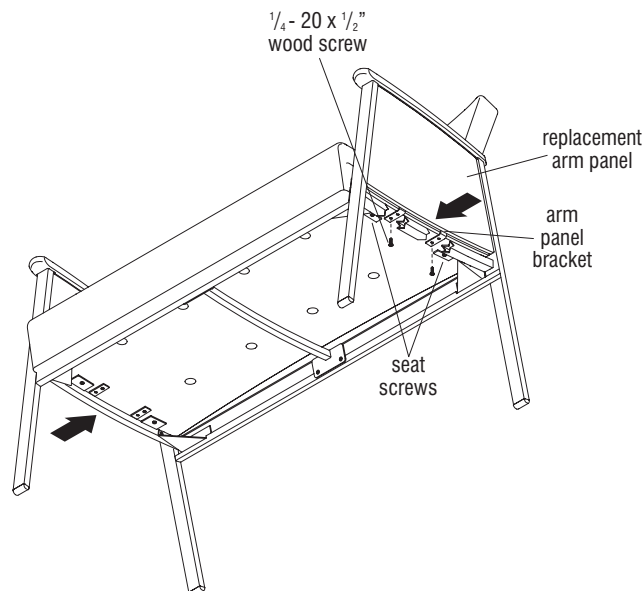

Figure 7
3. Slide the arm panel brackets over as required to align the bracket mounting holes with the arm panel screw mounting locations at the underside of the seat. Using two $\frac{1}{4}$ -20 x $\frac{1}{2}$ " wood screws, secure the arm panel brackets to the underside of the seat (Figure 7).
4. With help from a second person, apply side pressure at the arm frame where it meets under the seat, as shown by the arrows. Then tighten the seat screws which were loosened in step 2, page 1 at removal of the arm panel. (Figure 7).